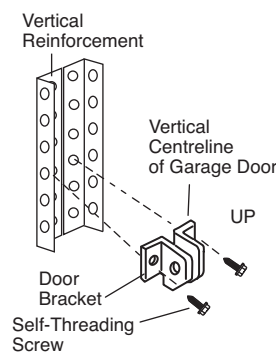

Figure 2A
- Drill 4.5mm fastening holes. Secure the door bracket using the two self-threading screws (Figure 2A).